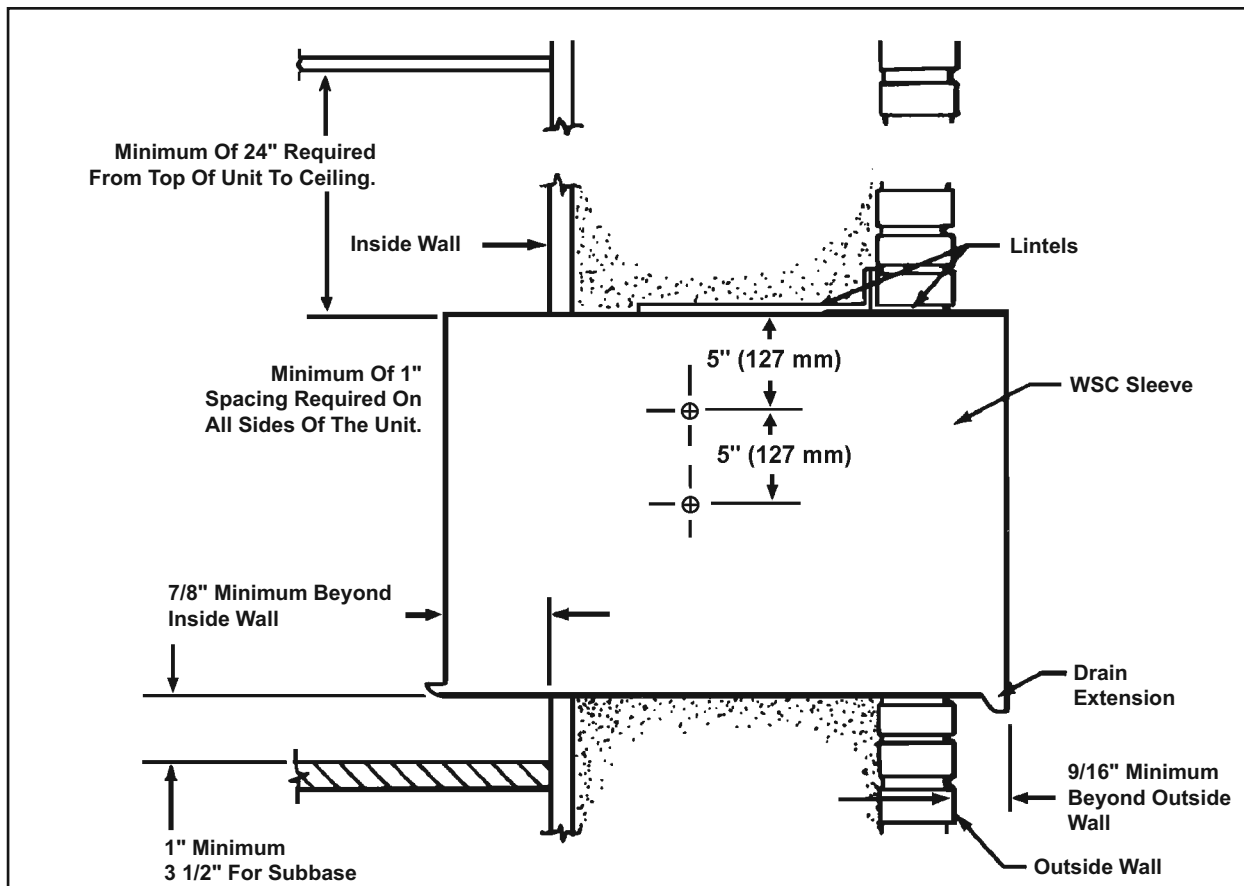

Figure 8
- Adjustable SUBBASE (SB) or other unit support must be provided for panel wall type construction and for walls less than 8" thick.
- A minimum distance of 1" must be allowed on all sides of the unit to adjacent wall and floor. Where the subbase is required, the minimum distance from the floor to the sleeve must be 3 1/2". To minimize chances of short cycling of the compressor, the minimum clearance between the ceiling and the top of the unit should be 24". (See Figure 8).
- STEP 1** The "WSC" SLEEVE should be positioned so that the DRAIN EXTENSION extends a minimum of 9/16" beyond the OUTSIDE WALL (See Figure 8).
- STEP 1** After unpacking the "WSC" SLEEVE from the carton, remove the unpainted FRONT PANEL. Locate the "WSC" SLEEVE in the wall opening following the instructions given in the INSTALLATION REQUIREMENTS. Attach the SLEEVE to the INSIDE WALL by driving two #12A x 2" screws in each side of the SLEEVE (see Figure 8). Shim at the top of the SLEEVE, midway between the sides. Drive one #12A x 2" screw in the top of the sleeve, close to the shim. Install screws from inside the SLEEVE. If the wall opening is not framed with wood, use expansion anchor bolts or molly (toggle) bolts (not provided).